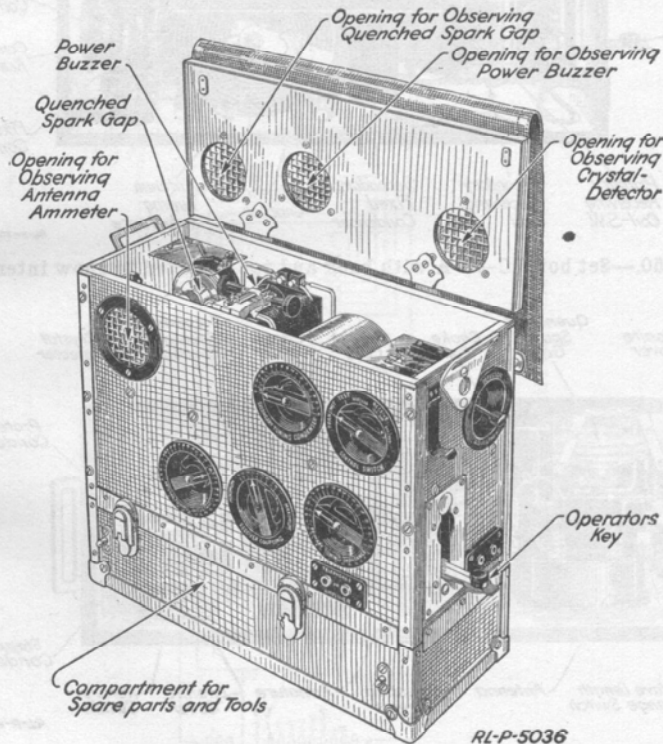

Fig. 49.—Set box, type BC-53-A.
The SCR-105 (see Fig. 49) is a compact transmitting and receiving quenched spark radio set. It is designed to be used in communication over a distance of 5 miles. The set is intended for intermit-
3. Observe the various parts in Figs. 49, 50, 51, and the wiring diagram in Fig. 52. Answer the following questions: